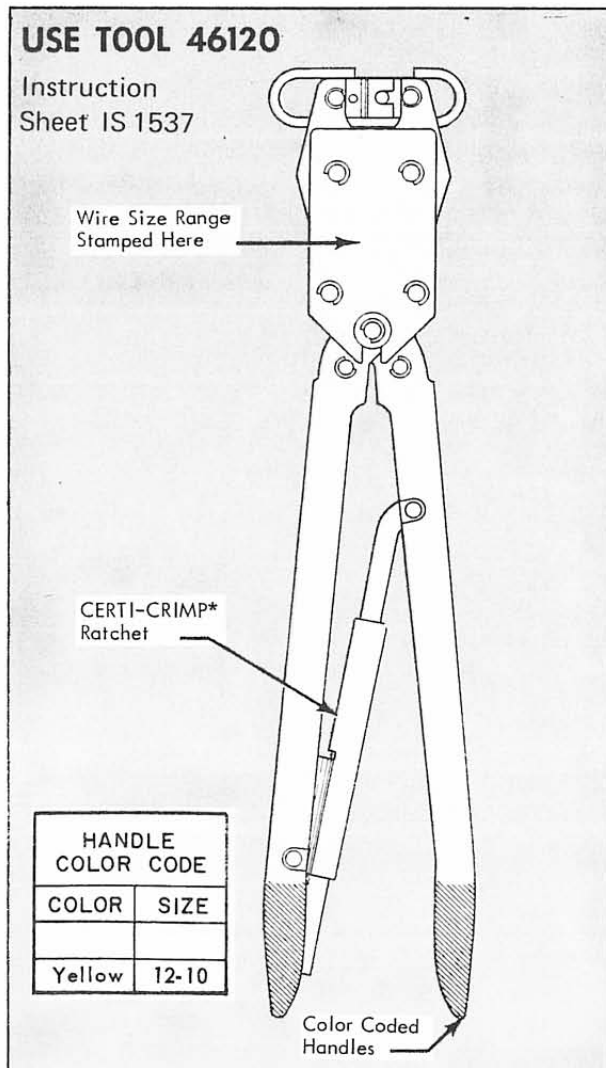

Fig. 1
1. The Tool, see Figure 1, covered by this Instruction Sheet is used to crimp CERTI-SEAL Moisture Proof Splices.
(a) Open Tool Handles by closing them until CERTI-CRIMP Ratchet, see Figure 1, releases. Note that once Ratchet is engaged, Handles cannot be opened until they are fully closed.